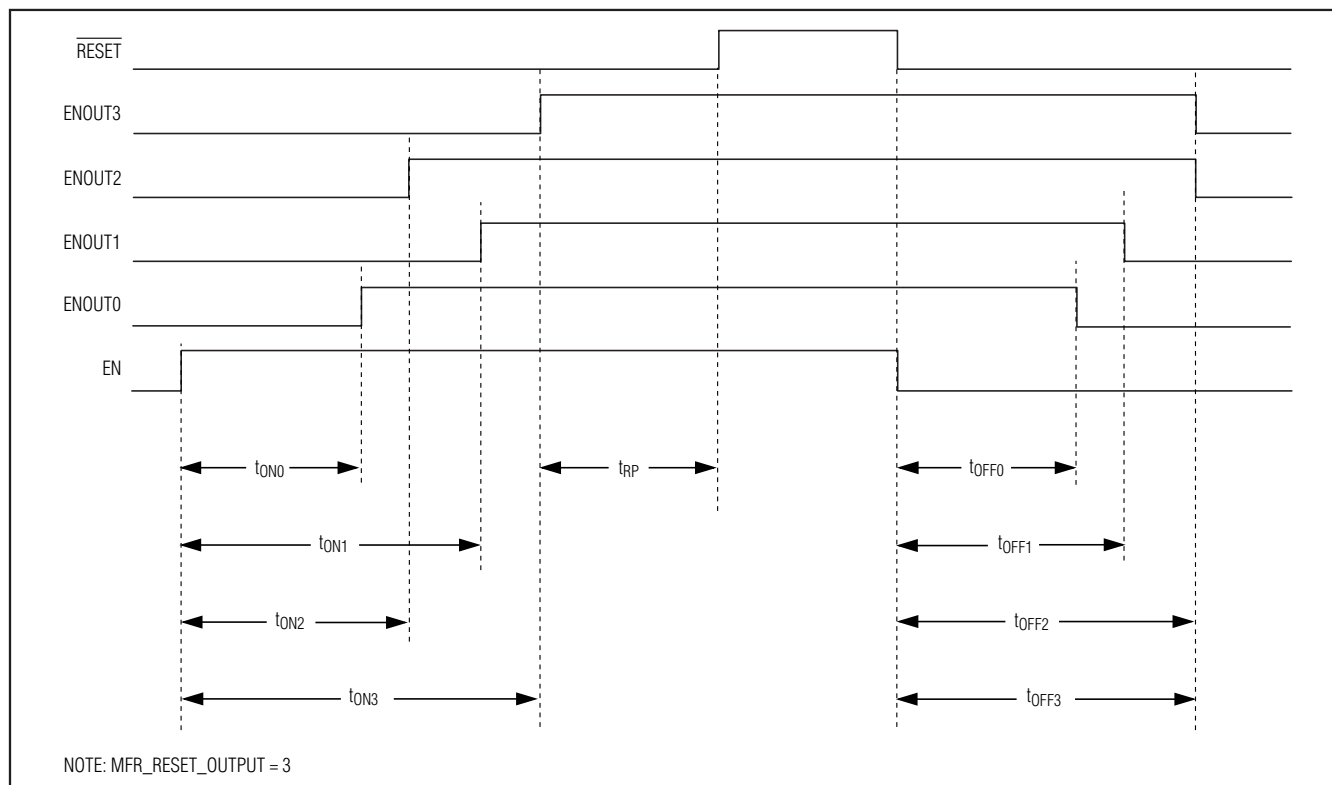

Figure 9. MAX16064 Typical Sequencing Timing
$\overline{\text{RESET}}$  is an active-low, open-drain output that is low when the device is powering on.  $\overline{\text{RESET}}$  is assigned to one of the power supplies using the MFR\_RESET\_OUTPUT command. When that power-supply output is at the target voltage,  $\overline{\text{RESET}}$  goes high after the reset timeout period (see Figure 9). The reset timeout period ( $t_{RP}$ ) is set by the MFR\_RESET\_DELAY command.
The MAX16064 includes an enable input (EN) that controls all ENOUT\_ signals in conjunction with the MFR\_MODE command. Unless MFR\_MODE.IGNORE\_EN is set, a below-threshold level on EN prevents any ENOUT\_ from turning on. Additionally, if the voltage at EN falls below the 1.2V (typ) threshold during OPERATION ON, the MAX16064 follows the fault action in MFR\_FAULT\_RESPONSE.EN. Figure 9 shows a typical sequencing with MFR\_MODE.IGNORE\_EN = 0.